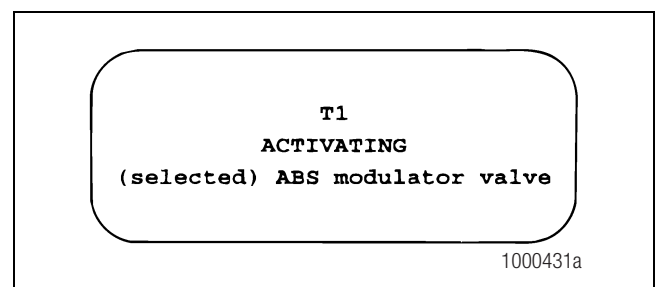

Figure 3.13
- Exercises ABS modulator valves one at a time. Figure 3.13.